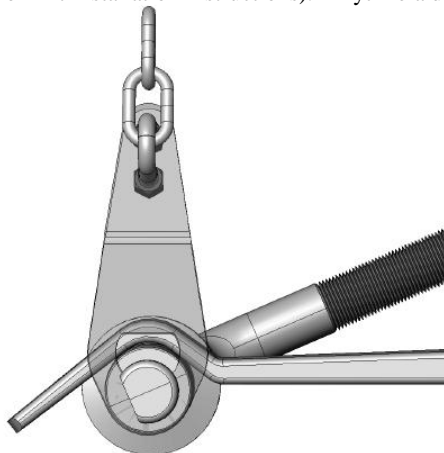

Figure 14
6. Check that the cam is properly seated properly in the detent of the spring bar (figure 14). If the cam arm assembly needs to be re-positioned to meet this requirement, raise the trailer tongue jack (refer back to step 1 of this section), release the snap-up brackets and tap the Cam Arm Assemblies either forward or rearward on the trailer frame to the necessary position with a mallet or hammer.
2. Go to each cam arm and check to see that the cam is perfectly centered in the detent of the spring bar. Make adjustments to the cam arm length as required, it is important to have the cam arm/spring bar detent exactly as shown in figure 14.
3. Before adjustments to the cam arm length can be made, raise the trailer tongue jack and lower the snap-up brackets. Loosen the Locking nut (figure 5) and move the adjustment nut (figure 5) until the cam is centered into the detent of the spring bar (figure 14). After making adjustments, lift both snap-up brackets and install retainer clips; lower the trailer tongue jack. Repeat step 2 of this section